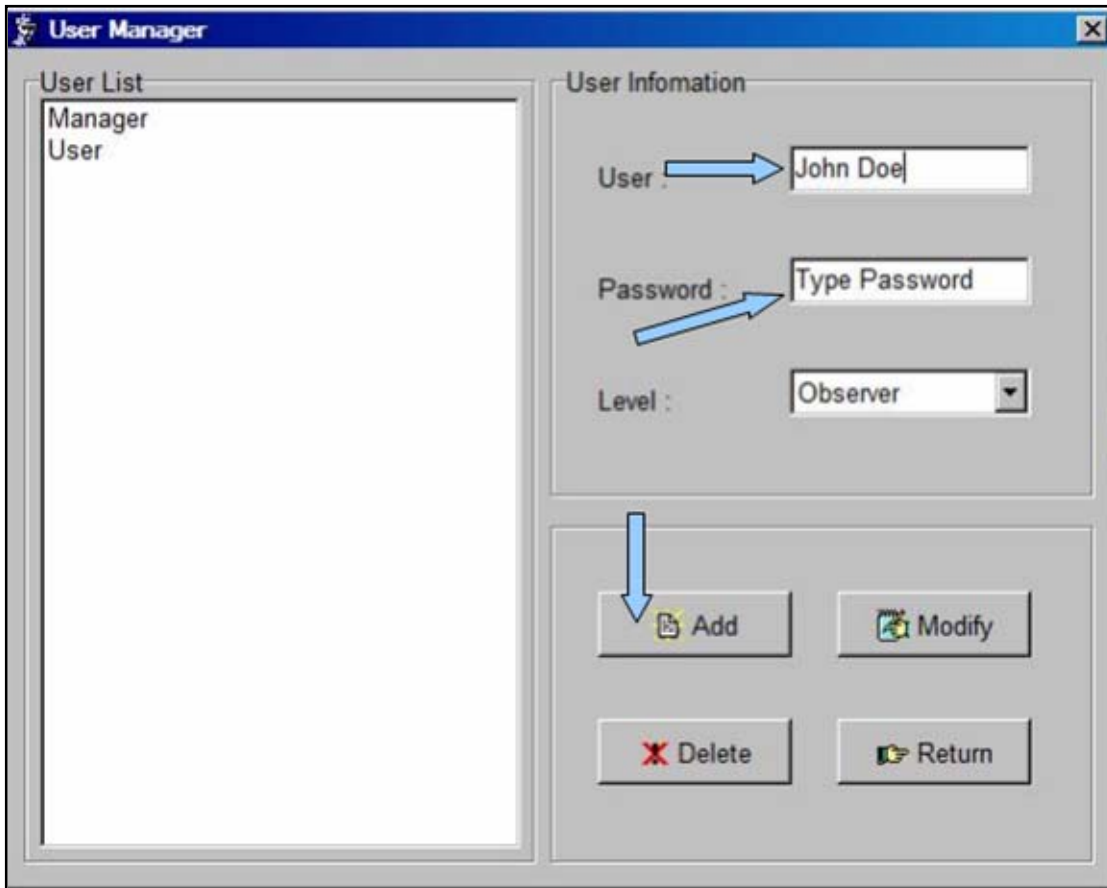

Figure 4-40. Enter User name and Password
2. Enter a user name and password, **Figure 4-40**. Then click *Add*.